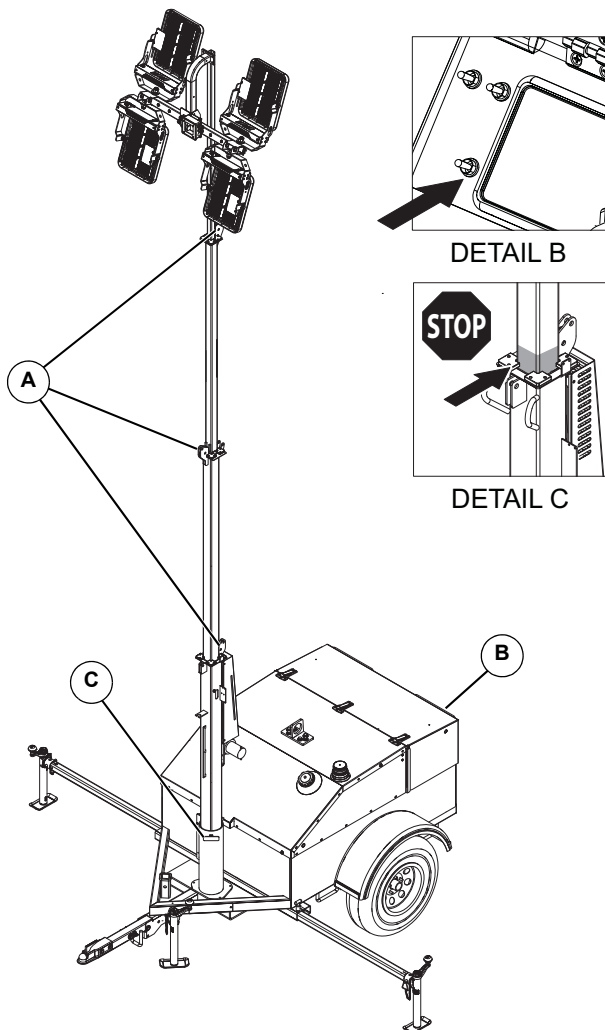

Figure 3-4. Switch & Pulley Locations - Electric Winch
2. See Figure 3-4. Check the mast cables for excessive wear or damage. Verify the cables are properly centered in each pulley (A). Check the electrical cord for damage.
3. Rotate the mast by loosening the mast rotation knob at the bottom of the mast (C). Turn the mast until the lights face in the desired direction and then tighten the mast rotation knob to secure the mast in position.